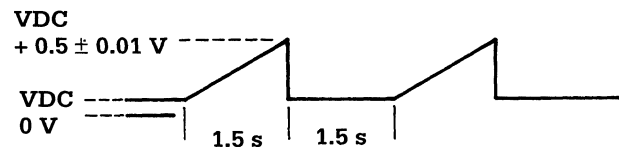

Figure 7-5
2. Connect an oscilloscope to TP-18 and adjust potentiometer RH until the displayed waveform has a peak ramp voltage of 0.5 V. The waveform should look like Figure 7-5.